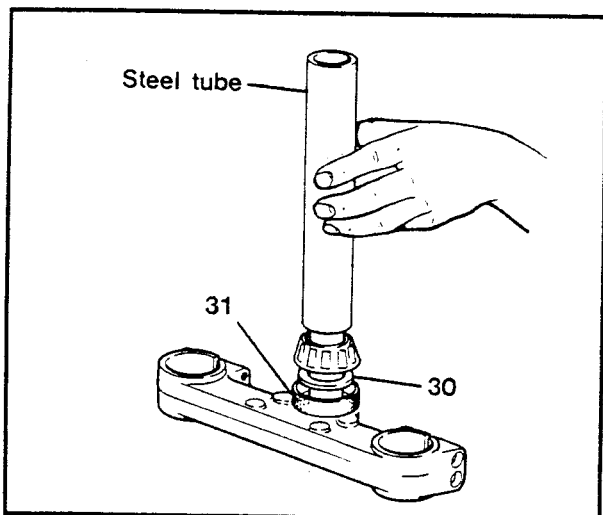
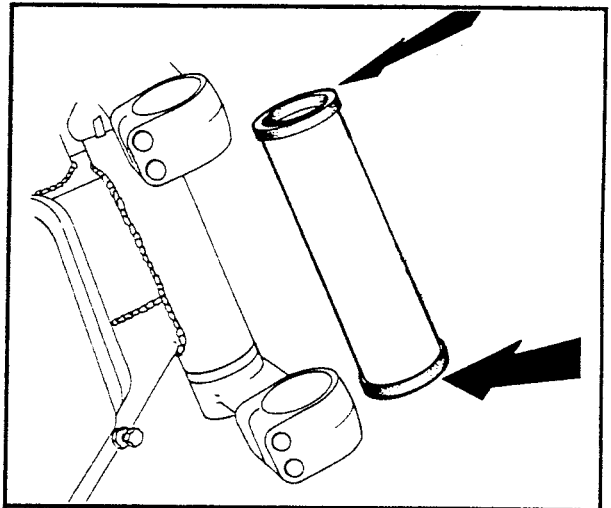

Figure 5-32. Bearing Installation
Figure 5-33. Headlamp Carrier Replacement
4. See Figure 5-32. Place the rubber seal and spacer on the shaft. Use an arbor press on the steel tube and install the bearing.
1. See Figure 5-32. At assembly, liberally grease both conical bearings and assemble the steering head components as shown.
2. Tighten the adjuster ring (23).
4. See Figure 5-33. Place the the top fork bracket in position, but before tightening the top steering stem nut, carefully install the headlamp carrier and anti-vibration mounting rubbers between the upper and lower fork brackets.